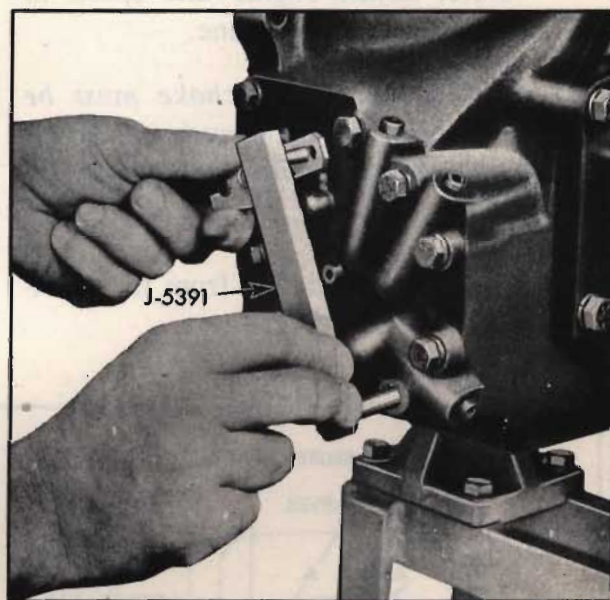

Fig. 4. Use of outer throttle valve lever gauge
3. Using a 1/2" socket, remove the lower rear low and drive body cover bolt. Hold clamp "C" back against the stop. Using the correct positioning gauge, measure the distance between the bolt hole in the cover and the hole in the throttle lever (Fig. 4). The gauge pins must enter both holes freely. If the gauge does not enter the holes, loosen the lever to clamp attaching bolt and re-position the lever.